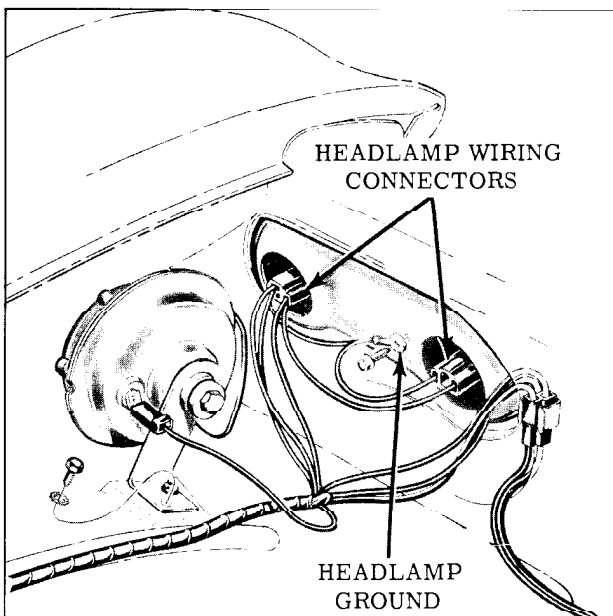

Fig. 13-101 Horns
The horns are mounted one on each inner front fender baffle. (Fig. 13-101)
1. Disconnect horn lead wire from horn terminal. (Fig. 13-101)